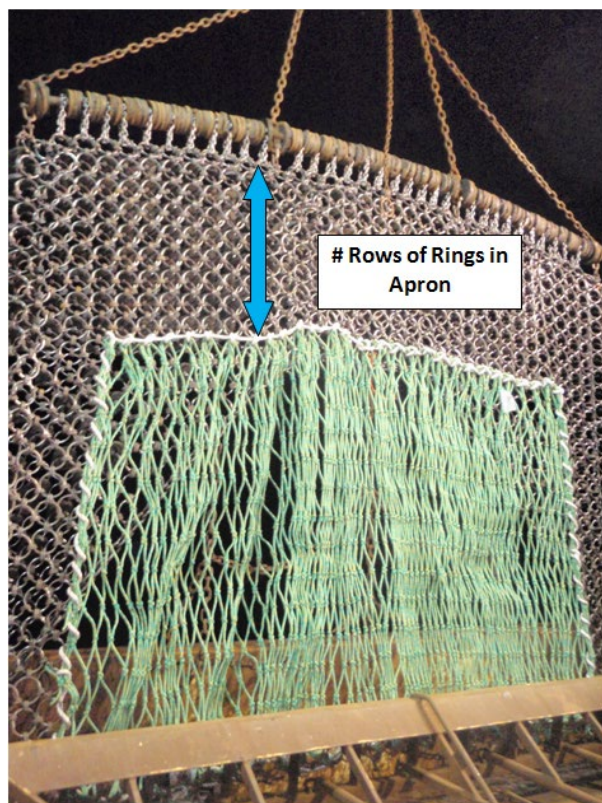

Figure 41. Scallop dredge apron.
*Apron:* Bottom of the chain bag where the catch is retained (see FIGURE 41).